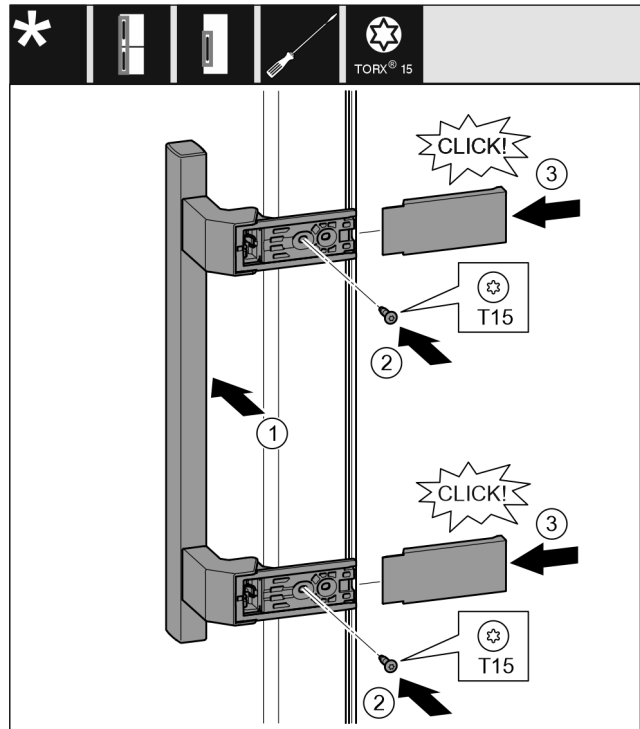

Fig. 11
- ▶ Attach the handle on the opposite side. Fig. 11 (1)
- ▶ Tighten screws with screwdriver T15. Fig. 11 (2)
- ▶ Place the covers on the side and push them on. Fig. 11 (3)